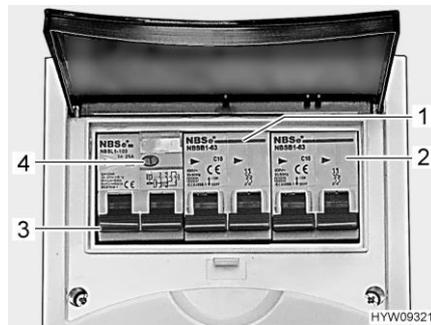

Fig. 146 Safety cutout and FI-switch (230 V fuse box)
A fault current protection switch (FI-switch) (Fig. 146,3) in the fuse box protects the complete vehicle from fault current (30 mA).
The downstream safety cut-out (10 A) (Fig. 146,1) secures the 230 V sockets, the transformer/rectifier, the auxiliary charging unit and the refrigerator. For vehicles with special equipment, e.g. roof air conditioning unit, the device is protected by an additional safety cut-out (16 A) (Fig. 146,2).
- When the vehicle is connected to the 230 V power supply, press the test button (Fig. 146,4). The fault current protection switch (FI-switch) must be activated.